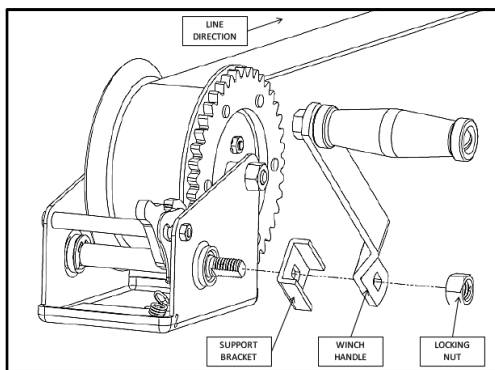

FIGURE 1
1. ASSEMBLE WINCH HANDLE AS SHOWN IN FIGURE 1. TIGHTEN LOCKING NUT TO A TORQUE OF 25 FT-LBS. DO NOT OVER TORQUE.
1. ASSEMBLEZ LA MANIVELLE DU TREUIL COMME ILLUSTRÉ À LA FIGURE 1. RESSEREZ L'ÉCROU DE BLOCAGE À UN COUPL DE 25 PI-LBS. NE PAS TROP SERRER.